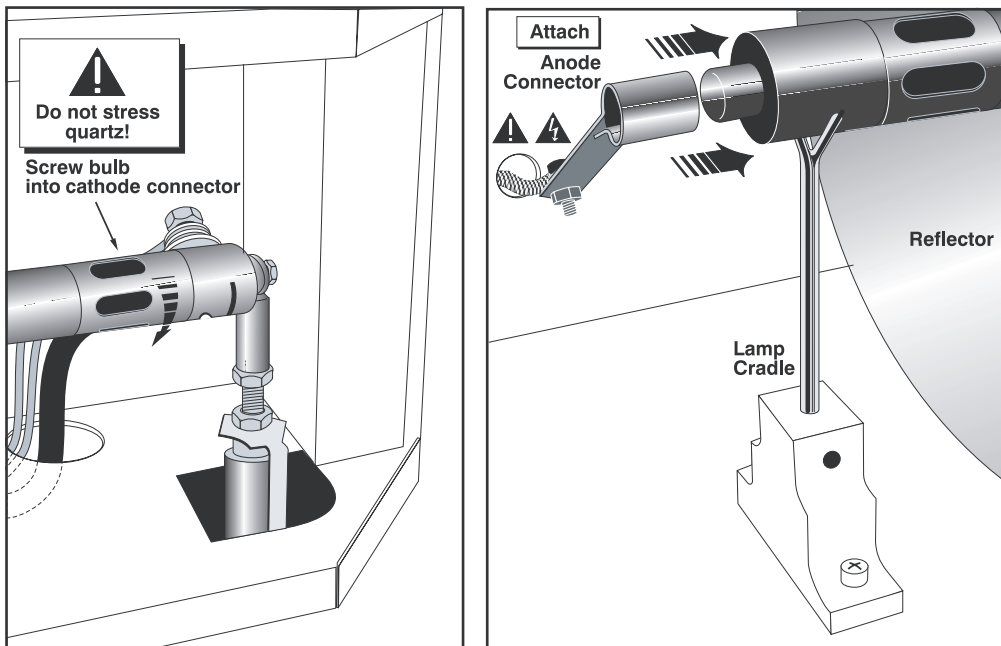

Figure 5-2. Installing A New Lamp
11. **Install new lamp:** With protective clothing and face shield on, insert the threaded cathode (–) end of the lamp into the negative lamp connector nut located in the rear of the lamp compartment and screw in fully; see Figure 5-2. Hand-tighten only.
12. Rest the anode (+) end of the lamp on the lamp cradle as shown in Figure 5-2. Then, slip the positive lamp connector over the bulb end.